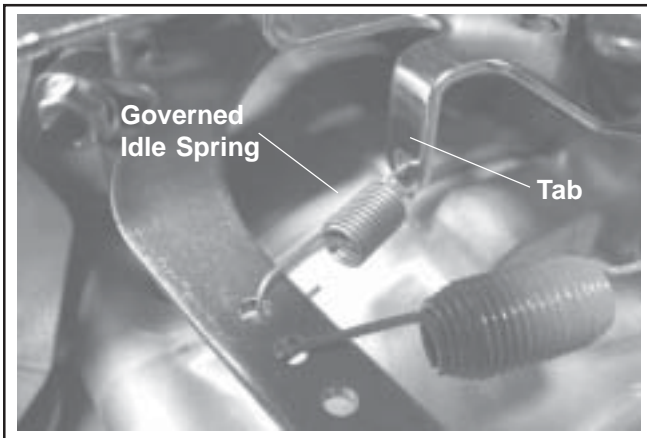

Figure 5-14. Governed Idle Spring Location.
An optional governed idle control system is supplied on some engines. The purpose of this system is to maintain a desired idle speed regardless of ambient conditions (temperature, parasitic load, etc.) that may change. Engines with this feature contain a small secondary spring connected between the governor lever and the lower adjustment tab of the main bracket. See Figure 5-14.
3. Release the governor lever and allow the engine to return to the governed idle speed. Check it with a tachometer against the equipment manufacturers recommended idle speed. Governed Idle Speed (RPM) is typically 300 RPM (approximate) higher than the low idle speed. If adjustment is necessary, bend the adjusting tab on the speed control assembly to set. See Figure 5-14.